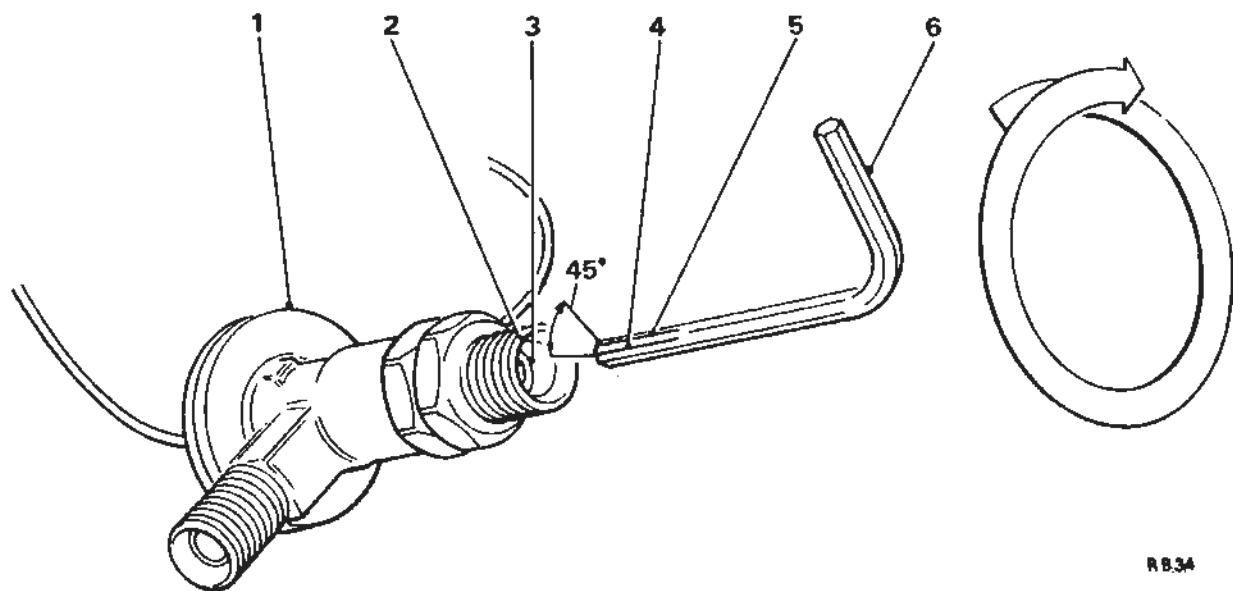

Figure 2 - Adjusting the expansion valve
4. Insert the Allen key into the valve outlet port as shown in Figure 2 so that the key engages into the hexagonal adjuster. Scribe a mark on to the valve outlet port outer periphery to correspond with the scribed line, Item 5 of Figure 2.
Rotate the Allen key in a clockwise direction one full turn and then an $1/8$ of a turn so that the scribed line item 4 of figure 2 corresponds with the mark on the valve outlet port.